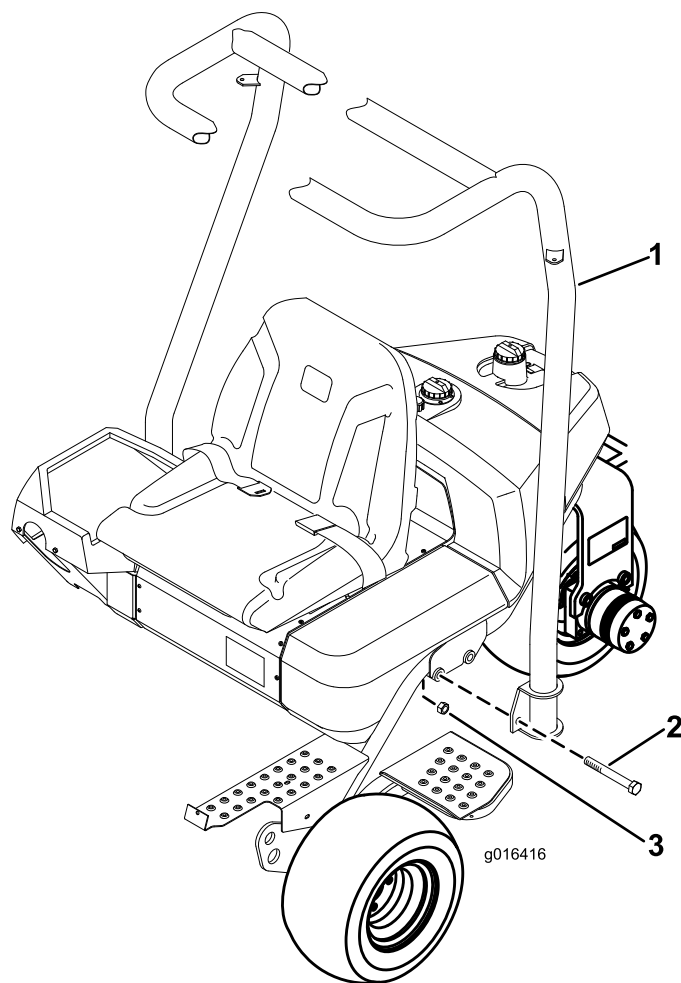

Figure 7
1. Position the ROPS so the top of the tube is curved toward the front of the machine (Figure 7).
2. Lower the ROPS onto the frame, aligning it with the mounting holes (Figure 7).
3. Secure each side of the ROPS to the frame with (2) bolts (5/8 x 4-1/2 inches) and locknuts as shown in Figure 7. Torque to 135-165 ft-lb (183-223 N-m).